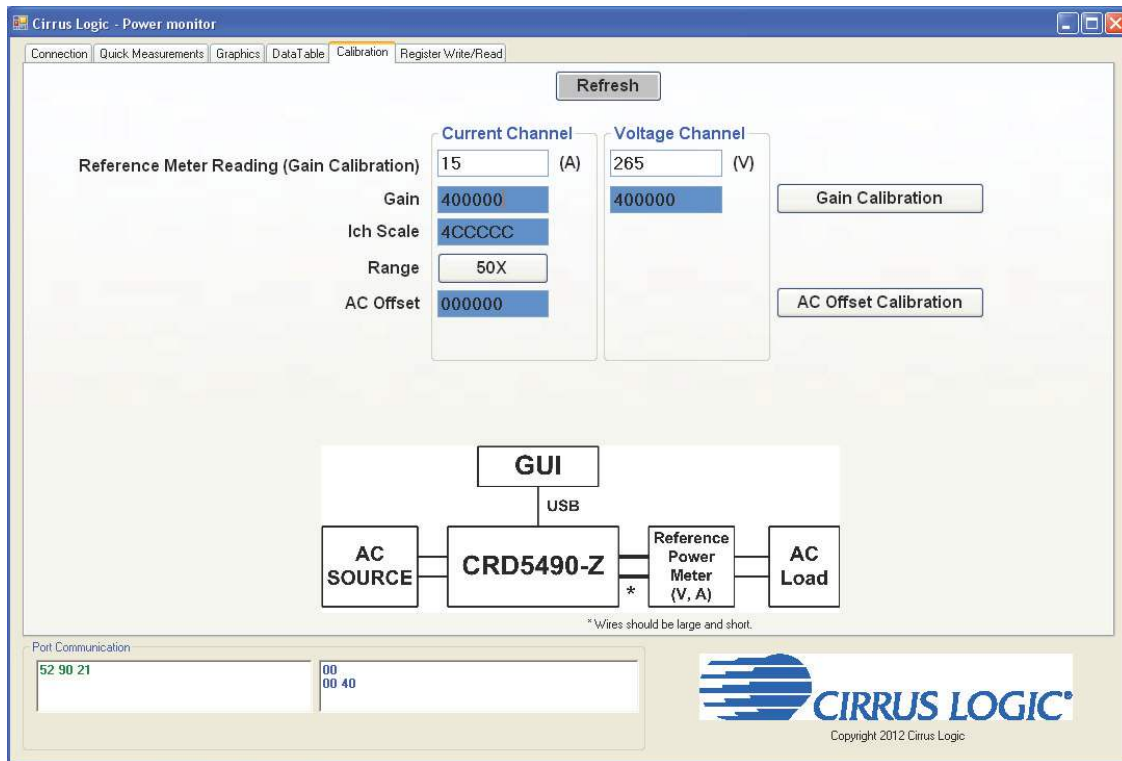

Figure 17. Calibration Tab with Initial Calibration Configuration
- Confirm that the initial conditions are configured as shown in Figure 17: